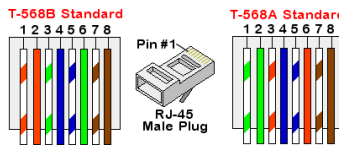

Figure 34: Ethernet connector - pin layout
3. Pull out the 6-pin RS485 terminal block connector, as shown in *Figure 34*.